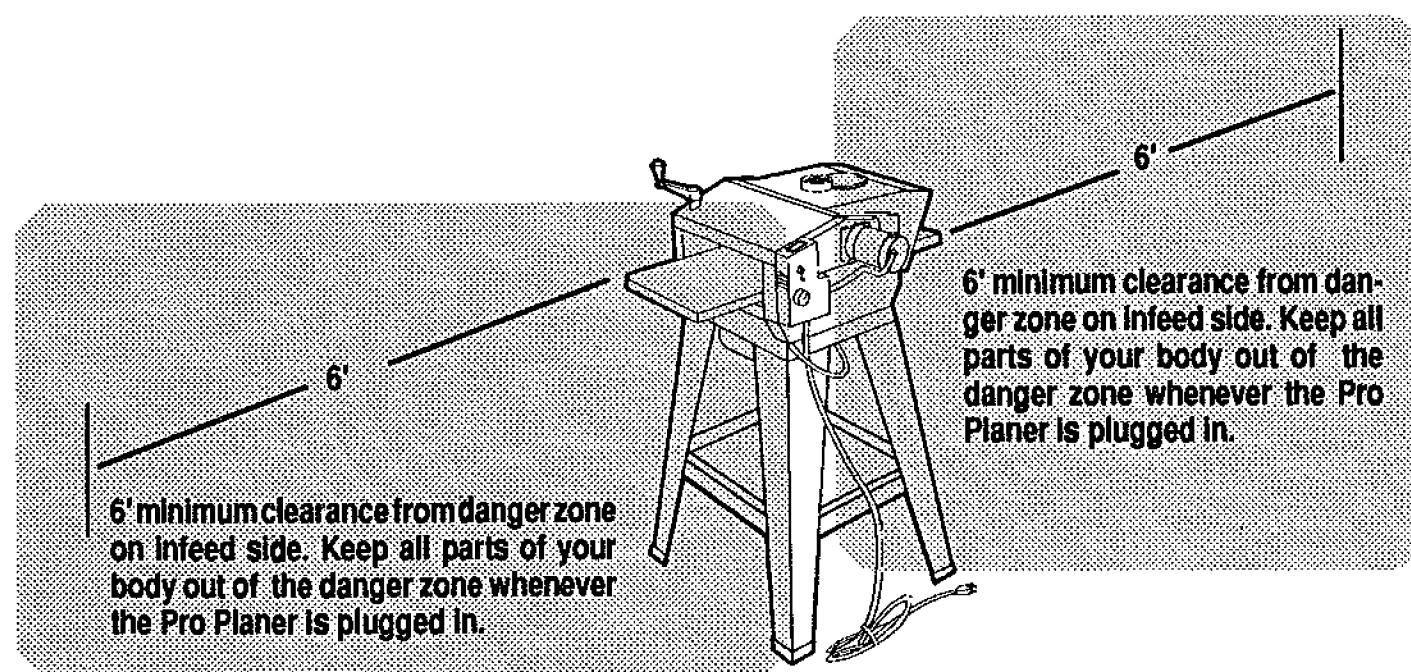

Fig. 52
- Keep your hands, fingers and other body parts out of the danger zone, as illustrated in Fig. 52.